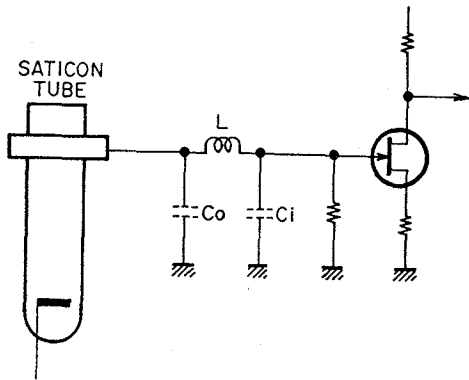

Fig. 5-12
In addition, a circuit known as the Percival circuit is often used with the pre-amplifier. As shown in Figure 5-12, this circuit has a coil (L) inserted between the output of the Saticon tube and the input of the pre-amplifier. With the Percival circuit, the S/N ratio can be improved a few dB by separating the output capacitance of the Saticon tube from the input capacitance of the pre-amplifier by means of the Percival coil L.